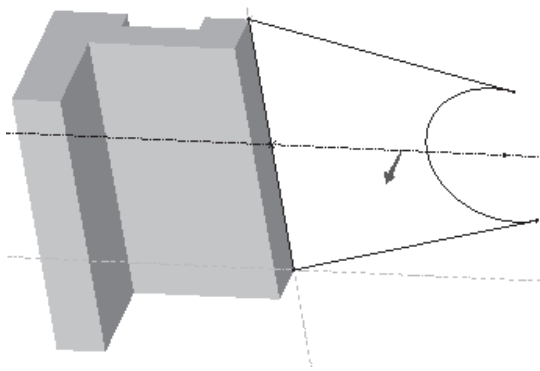

Figure 4-86 Arrow showing the direction of material addition
3. Choose the **Continue with the current section.** button. The **SPEC TO** menu is displayed and you are prompted to specify the depth of extrusion. Use the CTRL+middle mouse button to orient the model as shown in Figure 4-86.